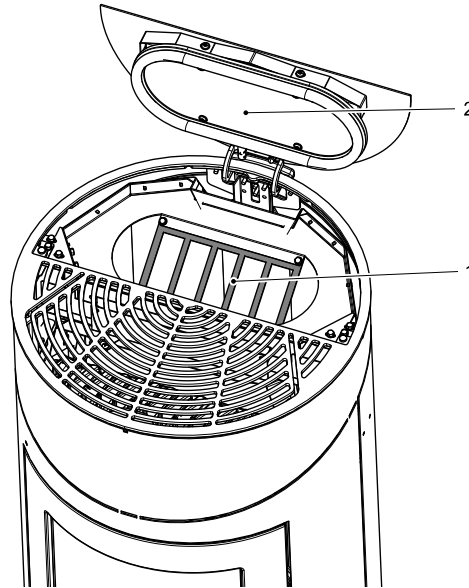

**Figure 4: Shake the turbulator**
- For cleaning the flue gas passes, shake the turbulator 5 times at least, in compliance with the Fig. 4, pos. 4.